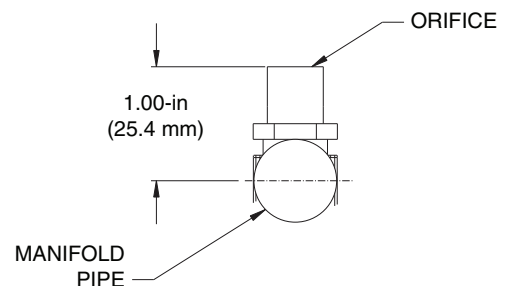

Fig. 45 — Orifice Projection
Refer to Fig. 45 for maximum projection dimension for orifice face to manifold tube.
5. If factory orifice has been removed, check that each orifice is tight at its threads into the manifold pipe and that orifice projection does not exceed maximum valve. See Fig. 45.
Check that each replacement orifice is tight at its threads into the manifold pipe and that orifice projection does not exceed maximum value. See Fig. 45.